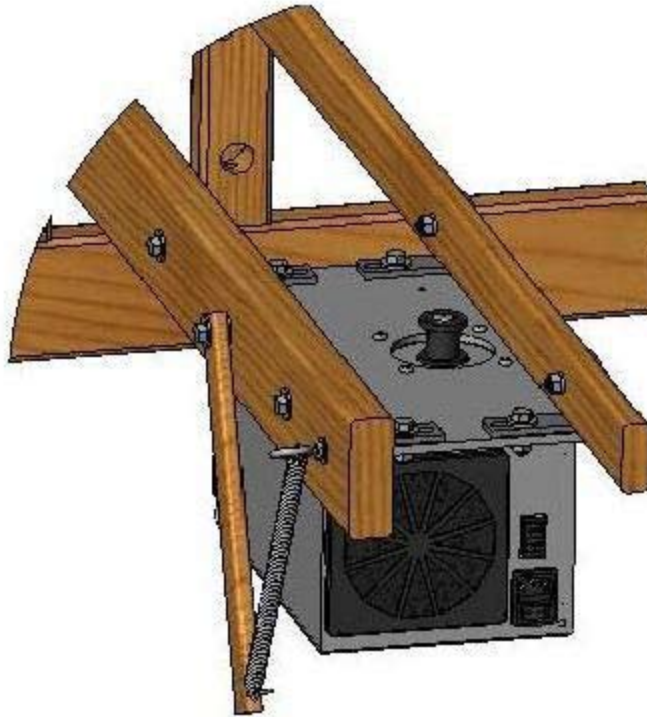

Figure 3 - Mounted Spring Lever, Spring Assembly, and Mounted Motor Box
4) **Mount the Spring Lever Assembly** (see Figure 3). Load one (1) 5/16-18 x 2-1/2" Hex Bolt with one (1) 5/16" Washer, the Spring Lever (with factory inserted bushing), and (1) 5/16" Washer. From outside of the Rear Crossmember, insert this Assembly into Hole #2. Secure the bolt on the inside face of the Rear Crossmember with (1) 5/16" Washer and (1) 5/16-18 Nylock.
- 5) **Mount the Spring Assembly** (see Figure 3).
- 1) **Mount the L-Brackets to the E-Lift II Motor Box** (see Figure 3). Mount the four (4) L-Brackets onto the top of the E-Lift Motor Box (as shown in Figure 3) inserting the four (4) 5/16-18 x 1" Hex Bolts and four (4) 5/16 Flat Washers from the top, down through the Brackets and the holes in the Mounting Plate, on the top of the Motor Box. Hold them in place with four (4) 5/16 Flat Washers and four (4) 5/16-18 Hex Nuts, as follows: (**Note:** Do not completely tighten these Mounting Bolts; leave them slightly loose for later adjustment.)
- 2) **Install the E-Lift II Motor Box** (see Figure 3). Position the box underneath and between the two Crossmembers with the Top Pulley of the box nearest to the Front Crossmember. Insert two (2) of the 5/16-18 x 2" Hex Bolts, with Flat Washers, from the outside, into Holes #3 and #5, of the Rear Crossmember, just far enough to keep them from falling out, while not protruding into the central area.